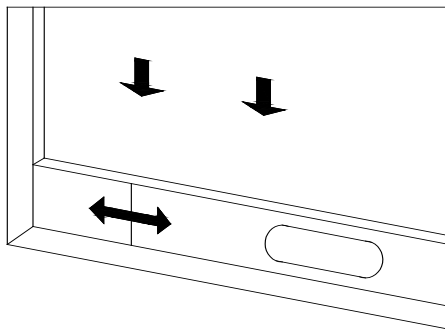
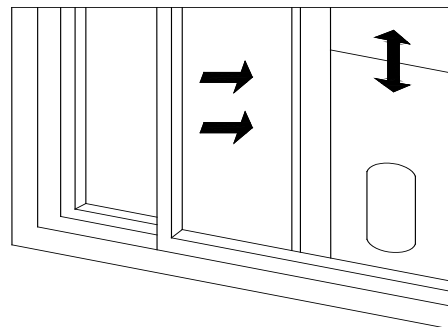

Figure 2
Figure 3
1. Half open the window and mount the window sealing plate assembly to the window (as shown in Figure 2 and Figure 3). Components can be placed in horizontal and vertical direction.